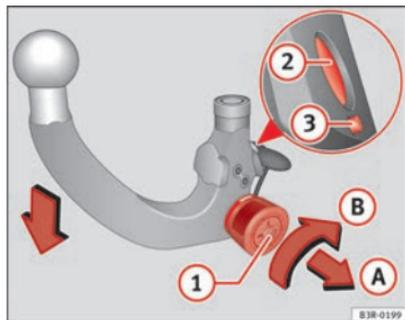

Fig. 159 Removable towing bracket: Setting the spring mechanism to the "ready" position
- Insert the key **(1)** ⇒ Fig. 159 in the lock on the knob and turn it towards the red marking.